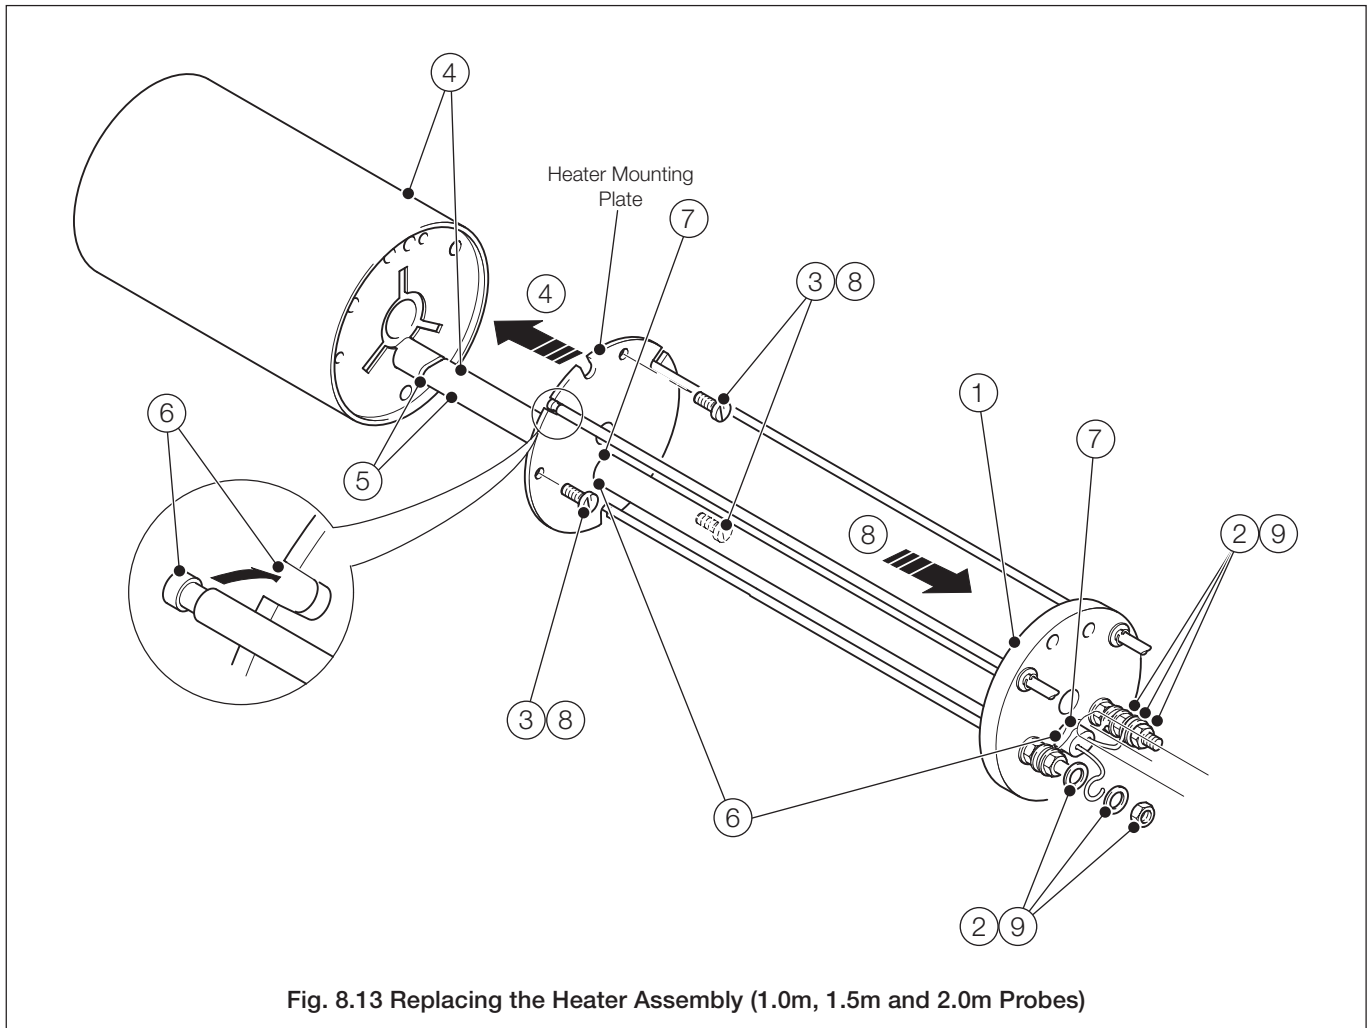

Fig. 8.13 Replacing the Heater Assembly (1.0m, 1.5m and 2.0m Probes)
**8.13 Replacing the Heater Assembly (1.0m, 1.5m and 2.0m Probes) – Fig. 8.13**